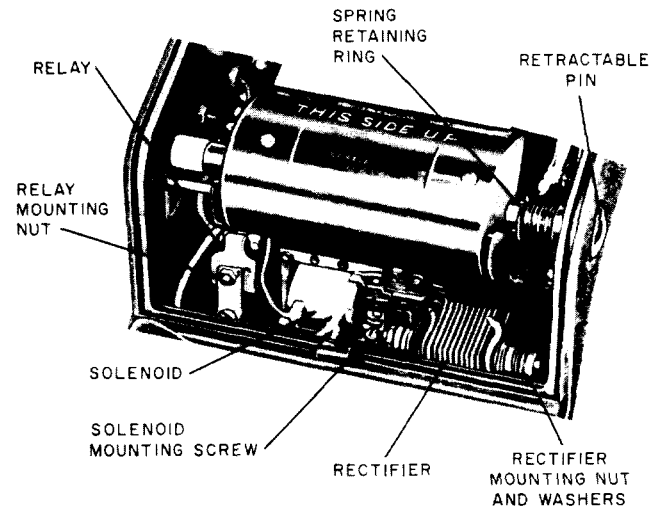

Fig. 13 — KS-14593 L2 Message Register Camera — Partial View Showing Relay, Solenoid, and Rectifier
(1) Remove the camera cover. Pull back the insulating sleeves covering the switch terminals, and tag and unsolder the leads. Remove the switch mounting screws using the 4-inch E screwdriver. Use the R-3193 wrench to hold the nut on the screw nearer the trigger side of the camera while removing the screw, taking care not to lose the associated washer. Remove the switch and mounting block. Remove the switch from its mounting block using the 3-inch C screwdriver. Substitute new parts as required.
(2) Mount the switch on the block and securely tighten the mounting screws. Mount the block with the switch and tighten the mounting screws friction tight making sure that the washer is in place under the nut. Connect and solder the leads. Pull the insulating sleeves up to cover the switch terminals. Adjust the position of the switch to meet the position of the end-of-paper switch requirement in Section 030-301-701 and securely tighten all screws.
3.30 *Rectifier:* Fig. 13 — Remove the camera cover. Tag and unsolder the rectifier leads. Loosen the rectifier mounting nuts using the R-3193 wrench. Remove the rectifier. Remove the nut and four washers from each end of the rectifier and transfer them to the corresponding positions on the new rectifier. Mount the new rectifier so that two washers are on each side of both mounting brackets. Securely tighten the nuts. Connect and solder the leads. Remount the camera cover.
3.31 *Relay:* Fig. 13 — Remove the camera cover. Tag and unsolder the relay leads. Loosen the relay mounting nut with the 417A
Fig. 13 and 15 — Remove the camera cover. Pull the retaining ring from the pin with the P-long-nose pliers while holding the spring in place. Remove the spring from the pin and remove the pin. Take care not to lose the washer under the head of the retractable pin at the trigger side of the camera. Substitute new parts as required and mount the parts in reverse order of removal making sure that the washer is in place under the head of the retractable pin at the trigger side of the camera. Remount the camera cover.